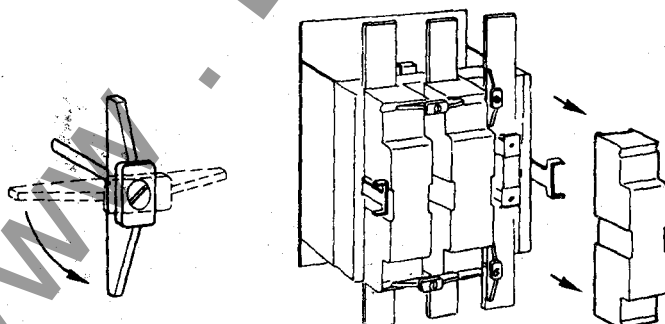

FIG. 1 — ARC CHUTE REMOVAL
2. Loosen the 4 screws attached to the arc chute hold-downs far enough to rotate them 90°. See Fig. 1.